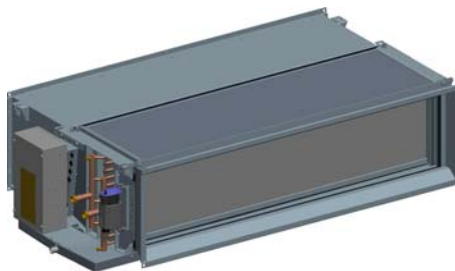

Fig. 2
- 1: Without fan chamber (free intake, Filter by others needed, (refer to Fig. 2))